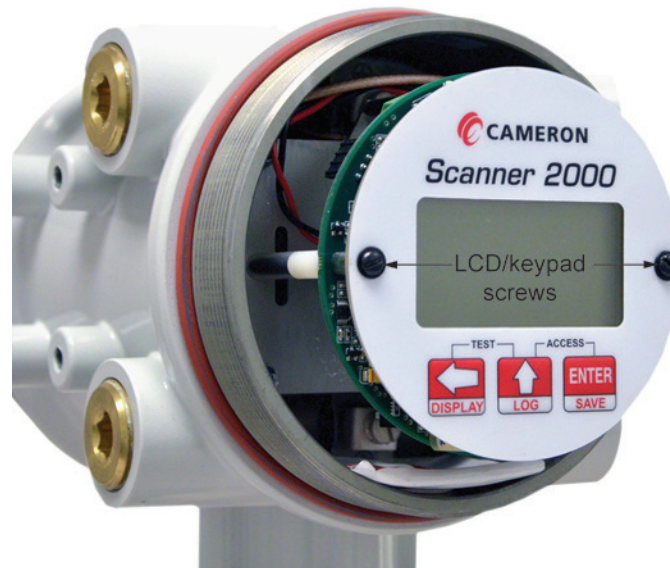

Figure 5.2—LCD/keypad screw locations
2. Remove the two #4-40 × 7/8" screws located to the right and left side of the display (Figure 5.2).
2. Remove the two #4-40 × 7/8" screws located to the right and left side of the display (Figure 5.2, page 77).